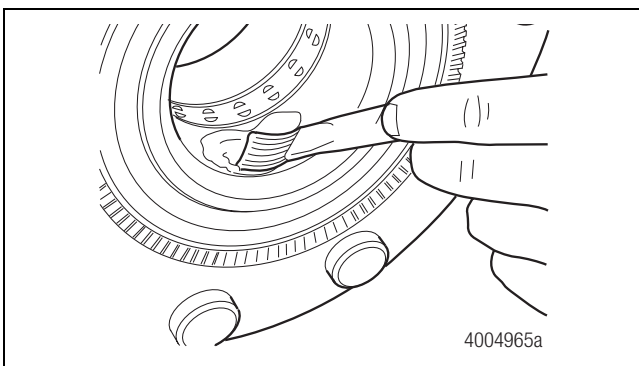

Figure 4.25
5. Apply a light coating of bearing grease to the hub bore. The entire hub bore which comes in contact with the spindle should be covered. This grease will help reduce spindle wear, assist in hub removal, and help seal the hub-spindle joint. Figure 4.25.